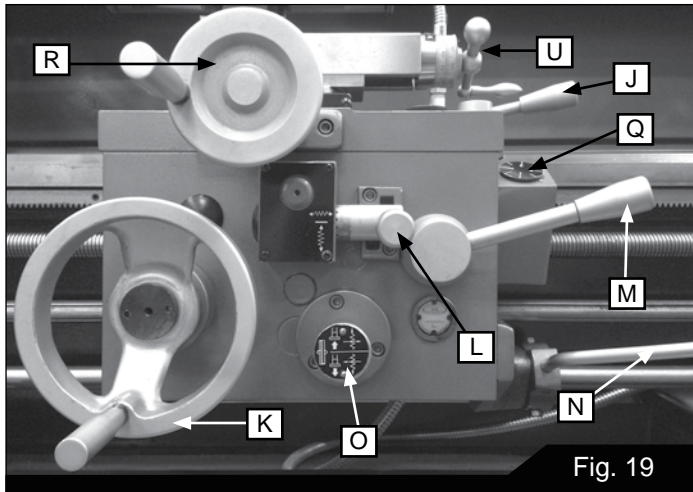

Fig. 19
5. **Carriage Lock (J, Figure 19):** Located on top right of carriage. Turn clockwise to lock, counterclockwise to unlock.
6. **Carriage Handwheel (K, Figure 19):** Located on the apron. Rotate handwheel clockwise to move the carriage assembly toward the tailstock (right). Rotate the wheel counterclockwise to move the carriage assembly toward headstock (left). A scale is mounted to the ring, graduated in 0.005 inch increments, and can be calibrated by loosening the thumb screw lock and rotating the ring as needed. Always retighten ring before using the feed.
7. **Feed Direction Lever (O, Figure 19):** Push in to move from left to right and pull out to move from right to left.
8. **Half Nut Lever (M, Figure 19):** Located on the front of the apron assembly. Engages the leadscrew for threading operations.
9. **Spindle Direction Control Lever (N, Figure 19):** Move the lever to the right so that its tab clears the notch, then down for forward spindle rotation, or up for reverse spindle rotation. Allow the spindle to come to a stop
10. **Feed Engagement Lever (L, Figure 19):** Push to one of three positions; Up for longitudinal; Down for crossfeed; the middle position allows screws to be cut by engaging the half nut.
11. **Threading Dial (Q, Figure 19):** Indicates the point on the leadscrew where the half nut can be re-engaged to continue inch threading.
12. **Cross Slide Handwheel (R, Figure 19):** Located above the apron assembly. Clockwise rotation moves the cross slide toward the rear of machine. The accompanying scale is graduated in 0.002 inch increments, and can be calibrated by loosening the thumb screw lock and rotating the ring as needed. Always re-tighten ring before using the feed.
14. **Compound Rest Handle (U, Figure 19):** Rotate clockwise or counterclockwise to position. The accompanying scale on the collar is graduated in 0.001 inch increments.
4. Set feed engagement lever (see L, Figure 19) to correct position (neutral).
5. Engage the half nut lever (M, Figure 19). The half nut lever must be engaged during the entire threading process when doing metric, diametral, and modular threading.